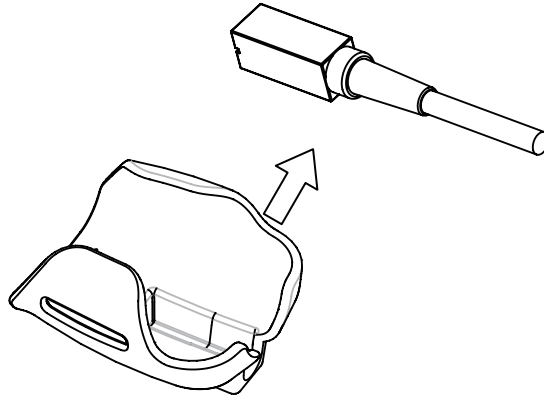

Figure 6 How to release Magnetic Position Sensor
- (2) Take out the magnetic position sensor from the magnetic position sensor attachment as shown in Figure 6.